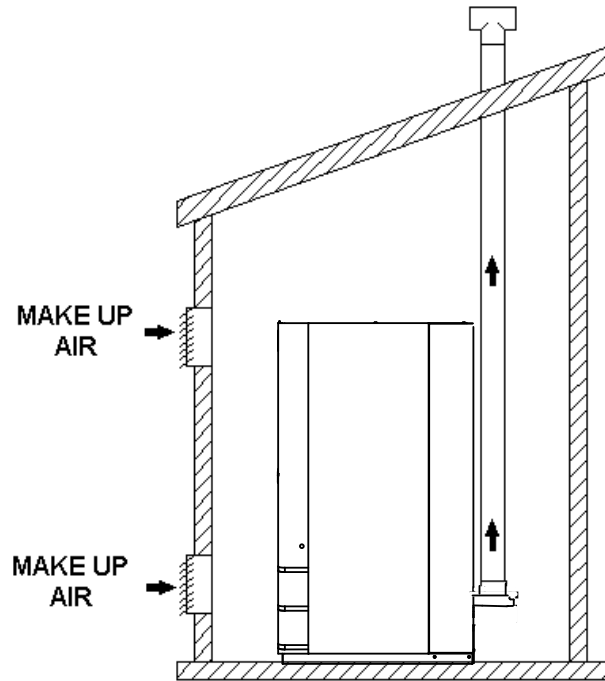

Figure 2. Combustion Air From Outside the building
3. When combustion air is brought from outside the building, the boiler/heater room shall be provided with two permanent openings, one commencing 12 inches from the top and one commencing within 12 inches from the bottom of the room (see Figures 2 and 3). The openings shall communicate directly, or by ducts, freely with the outdoors. One of the following methods must be made to provide adequate air for ventilation and combustion.